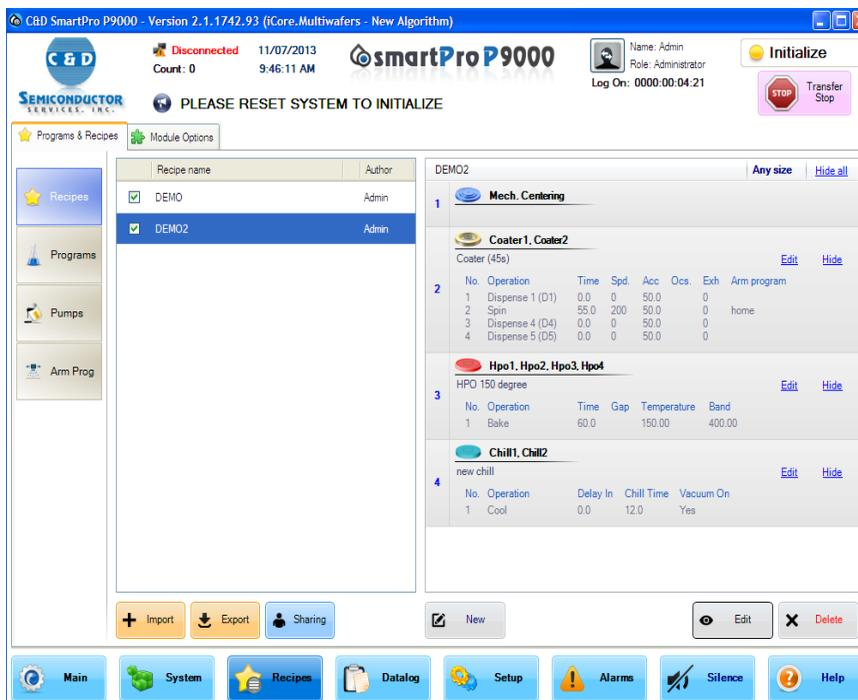

FIGURE 3-31: Exporting recipes
2. From the side menu, click the Recipes. The Recipes page refreshes. See Figure 3-31.